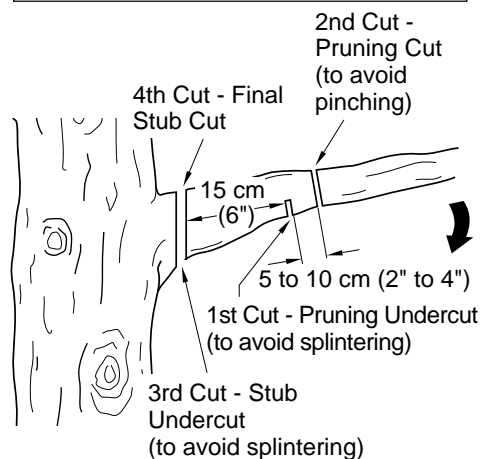

Figure 10 - Cutting A Limb
1. Make first cut 15 centimeters (six inches) from tree trunk on underside of limb. Use top of guide bar to make this cut. Cut 1/3 through diameter of limb (see Figure 10).